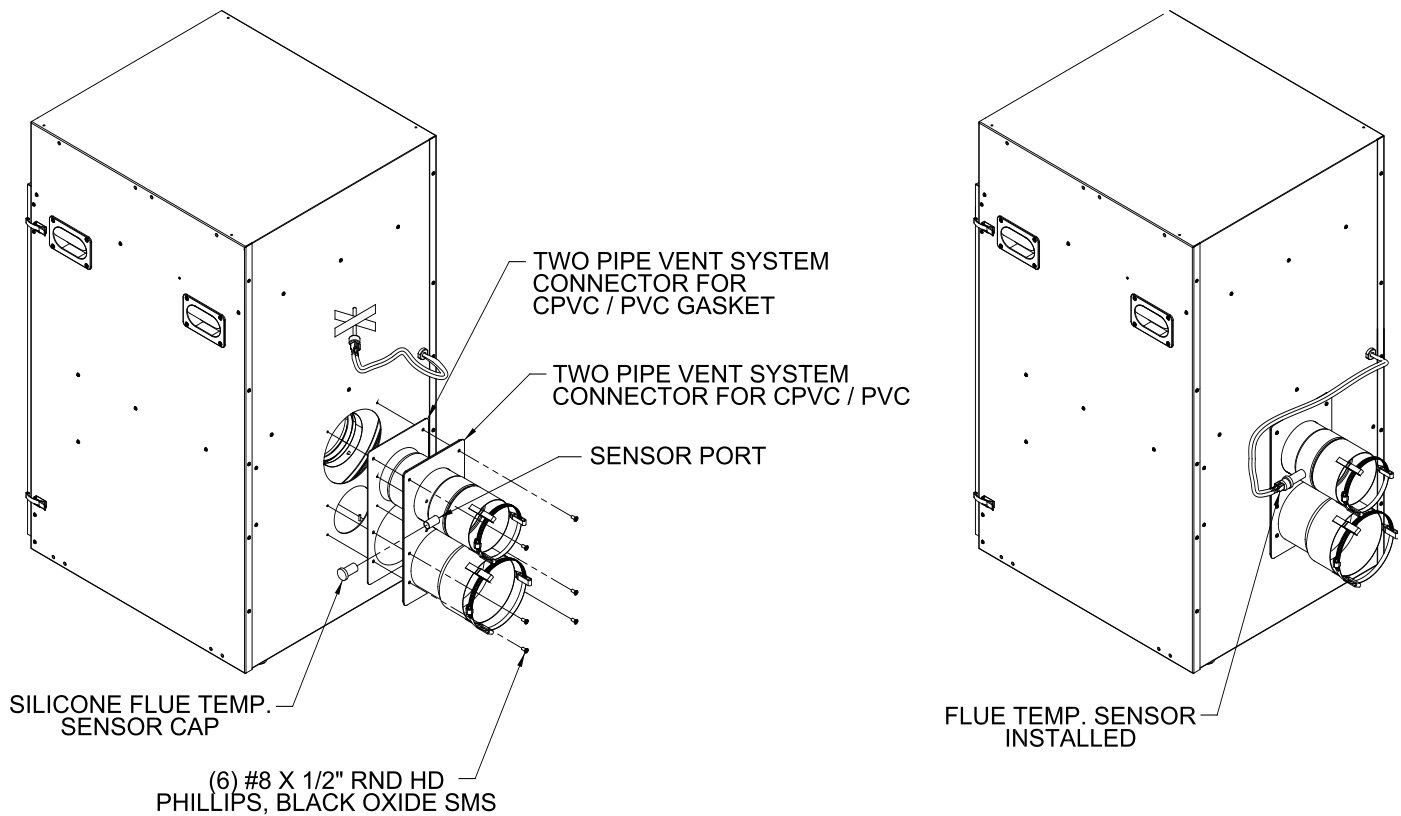

Figure 4: Field Installation of Two Pipe Vent System Connector for CPVC/PVC
- Align vent connector plate and gasket clearance holes with rear/bottom panel engagement holes; then secure the collar and gasket to rear/bottom panel with six mounting screws. See Figure 4.
6. Remove the Silicone flue sensor cap from the vent carton and press onto the two pipe vent system connector for CPVC/PVC sensor port. Remove the tape holding the flue sensor and insert the flue temperature sensor into the flue sensor plug until it is firmly engaged. See Figure 4.